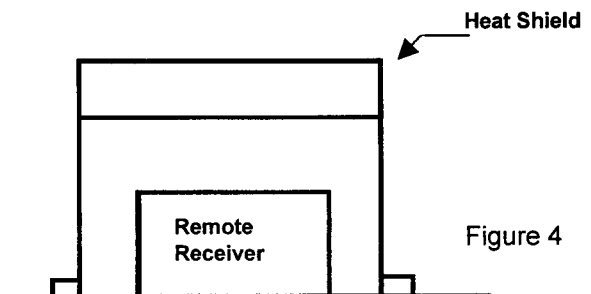

Figure 4
8. In order to prevent the Remote Receiver from overheating, put a Heat shield (option item) above the Remote Receiver. See Figure 4.